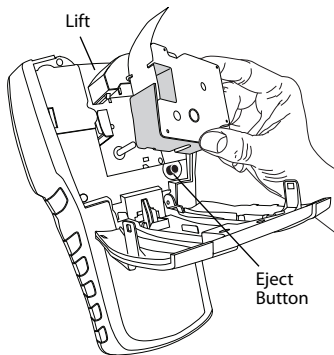

Figure 4
1. Lift the label cartridge cover to open the label compartment. See Figure 4.